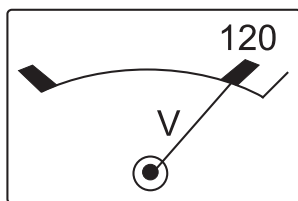

Figure 14. AC Voltmeter (120 VAC)
8. Refer to the AC voltmeter (Figure 14) on the control panel. The voltage indicated on the voltmeter should be 120 VAC with no load applied.